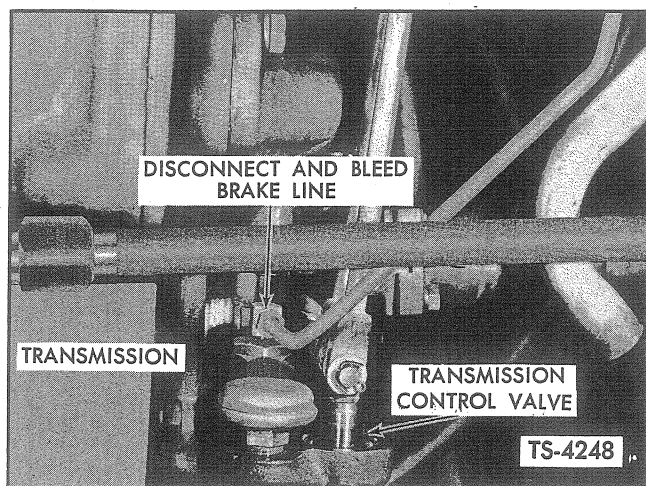

Fig. 17. Bleed Brakes — Transmission
The transmission and both rear wheel cylinders must be bled in the following order. Refer to Figures 17 and 18.
2. With the aid of a helper disconnect brake line from transmission control valve as shown in Figure 17 and depress brake pedal to expel air and fluid from lines.